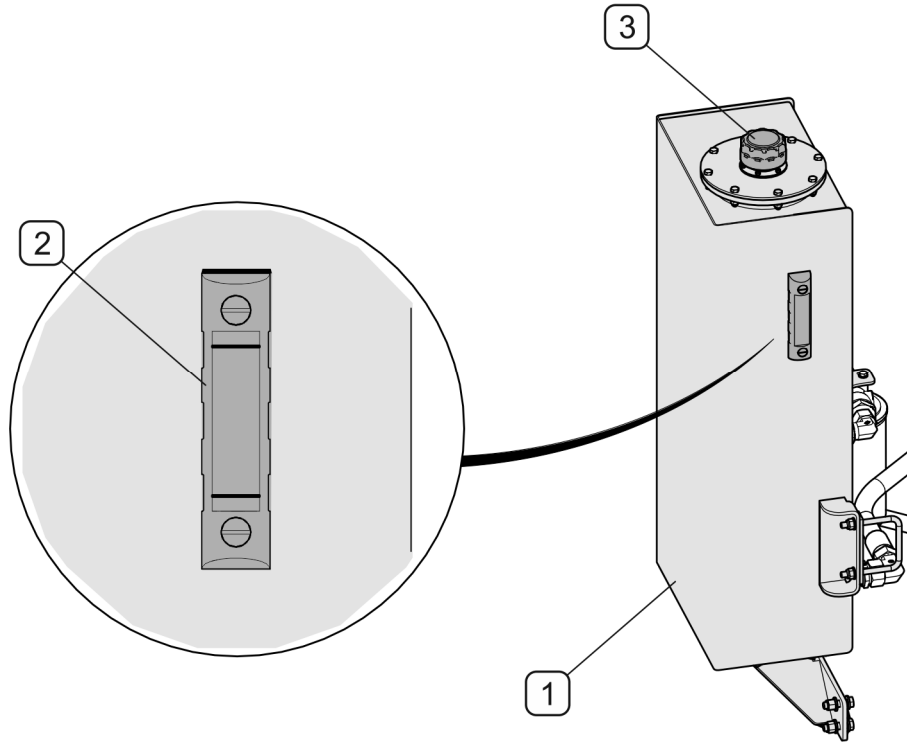

FIGURE 4.1 Checking hydraulic oil level
- Check hydraulic oil level on the oil level indicator (2) (FIGURE 4.1).
- If oil level is too low, unscrew filler plug (3) and supplement oil.